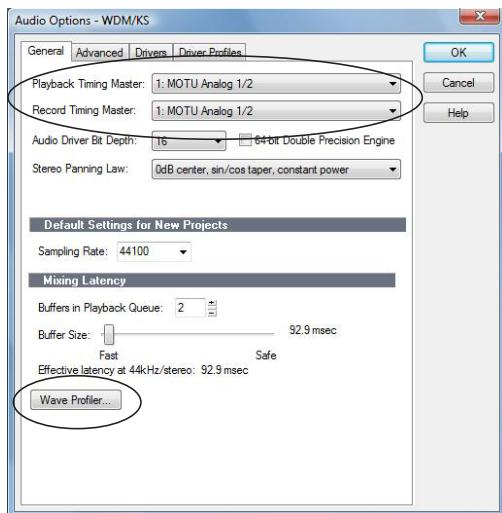

Figure 8-4: Make sure you have chosen a Traveler-mk3 input and output for the playback and recording timing master settings.
- 2 Choose an Traveler-mk3 input and output for recording and playback timing as shown below in Figure 8-4. It doesn't matter which input or output you choose.